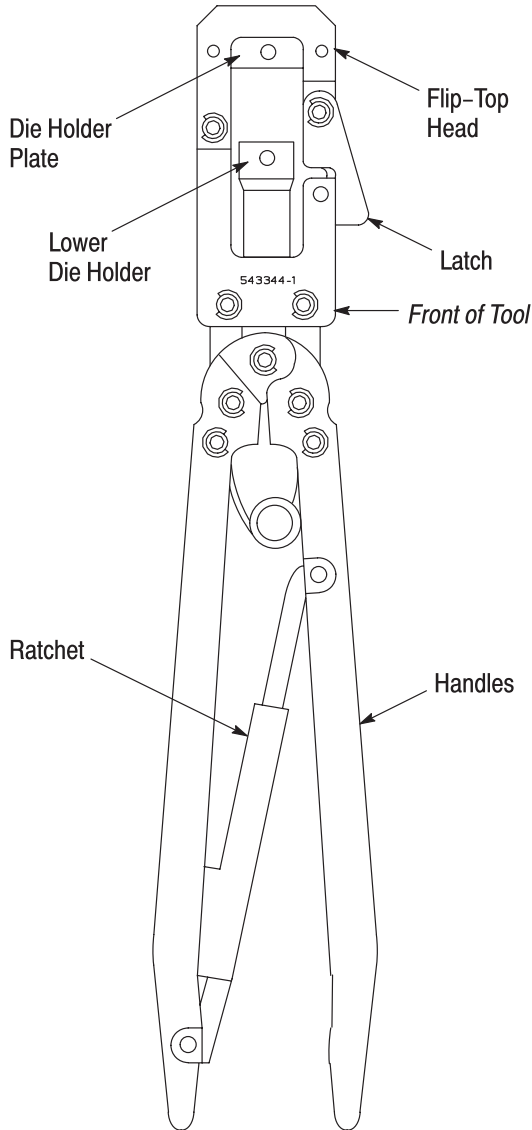

Figure 1
2. DESCRIPTION (Figure 1)
- Modified Figures 1 and 3